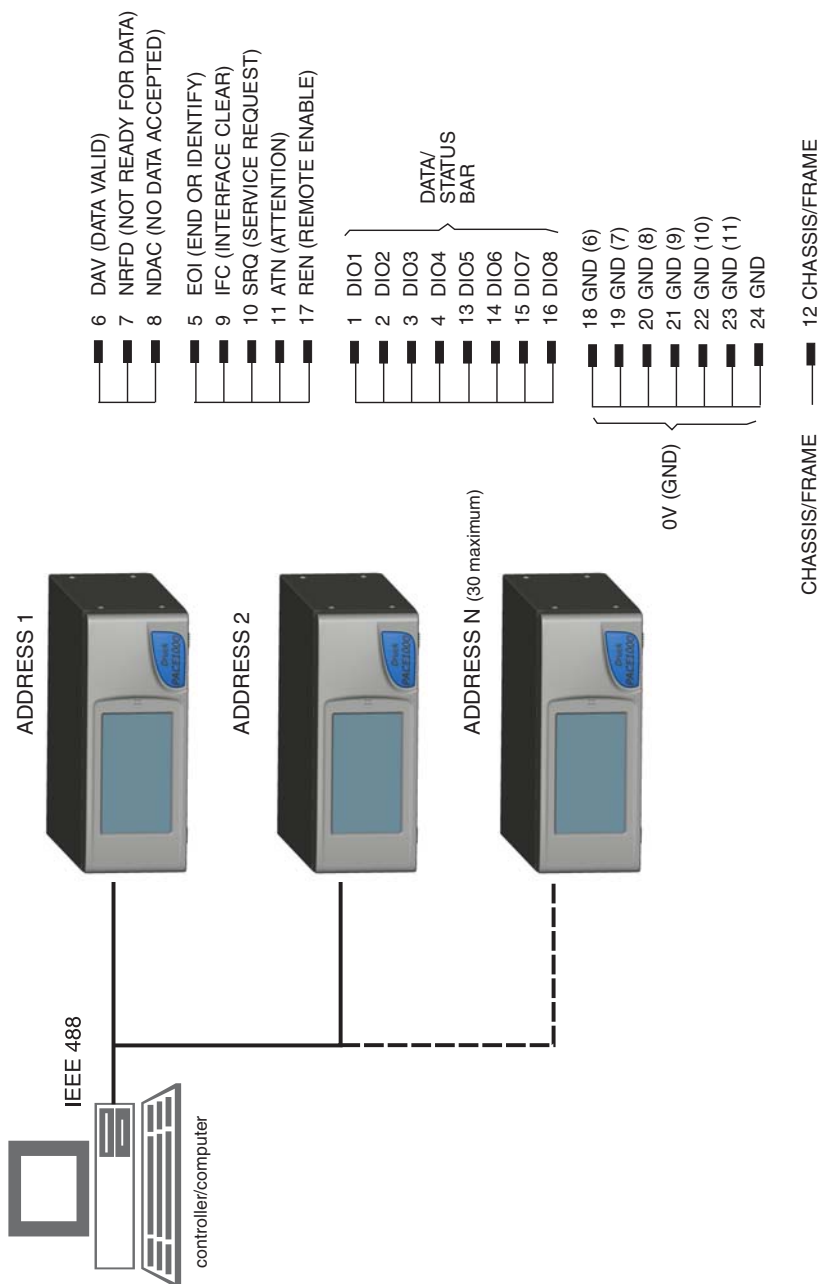

Figure 8 IEEE 488 Connection
7.4 Single Unit Installation (Figure 8)
7.5 Multiple Unit Installation (Figure 8)